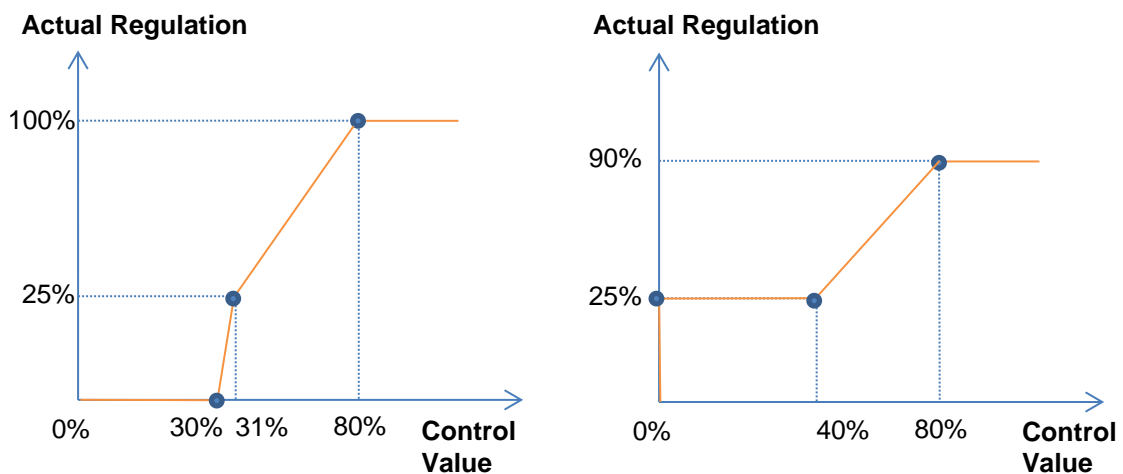
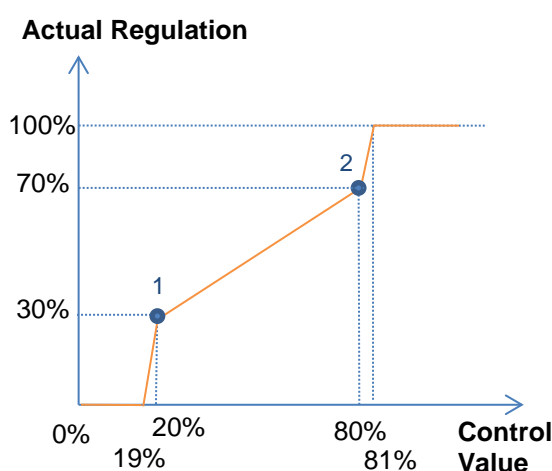

Figure 12. Custom Control Curves.
Figure 13. Characteristic Curve – Values Out of Range.
In case the first and last points do not correspond (respectively) to values 0% and 100%, the characteristic curve will be defined as follows (see Figure 12 and Figure 13):
- For **control values lower than that of the first point**, the actual regulation value will be 0%. For example, in Figure 13 all control values under 20% imply a regulation value of 0%.
- For **control values greater than that of the last point**, the actual regulation value will be 100%. For example, in Figure 13 all control values over 80% imply a regulation value of 100%.